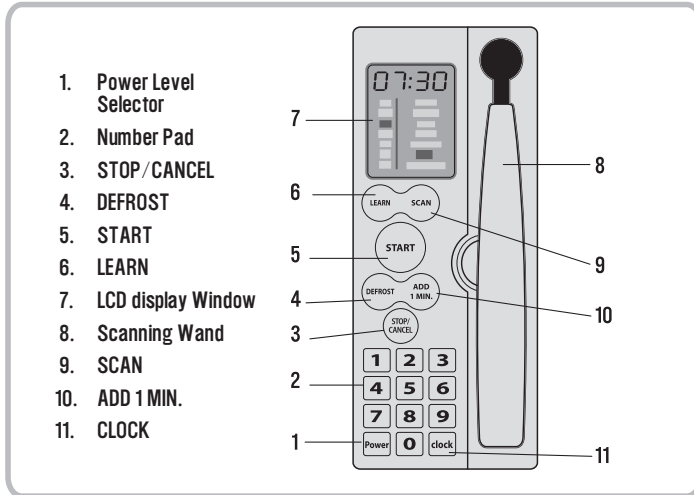

Figure 3
The control panel is shown in Figure 3. below. Control panel push buttons and features are described in Table 1, immediately following.
- Please refer to page 9, Figure 3, for an illustration of the Control Panel.